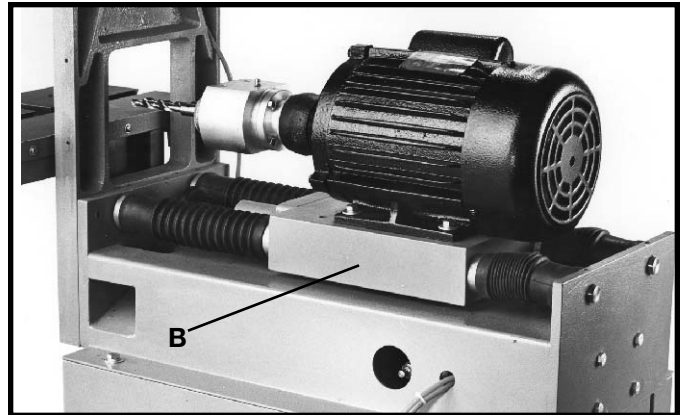

Fig. 19
3. Manually push the boring head carriage (B) Fig. 19, forward as far as it will go.